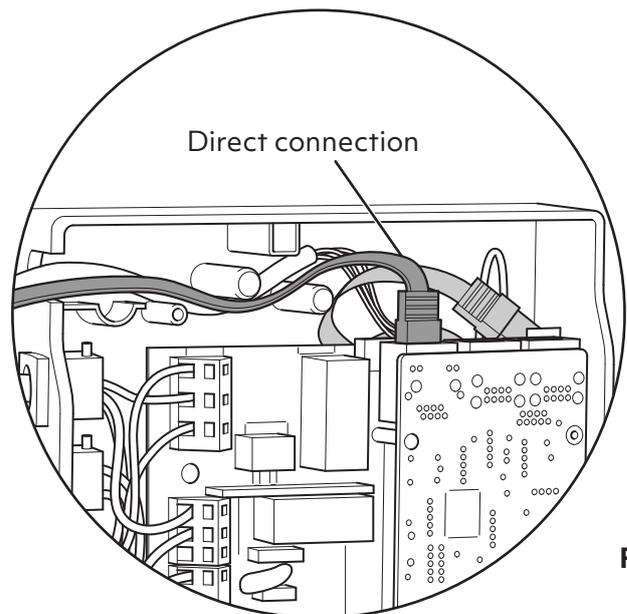

Fig. 28
2. Replace the removed ethernet cable with a suitable direct connection to the network (broadband router/switch) (Fig. 28).